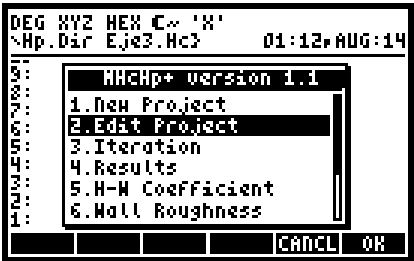

Figure 4.6a
It is used arrow keys to access the item 2.Edit Project as it is shown in figure 4.6a.